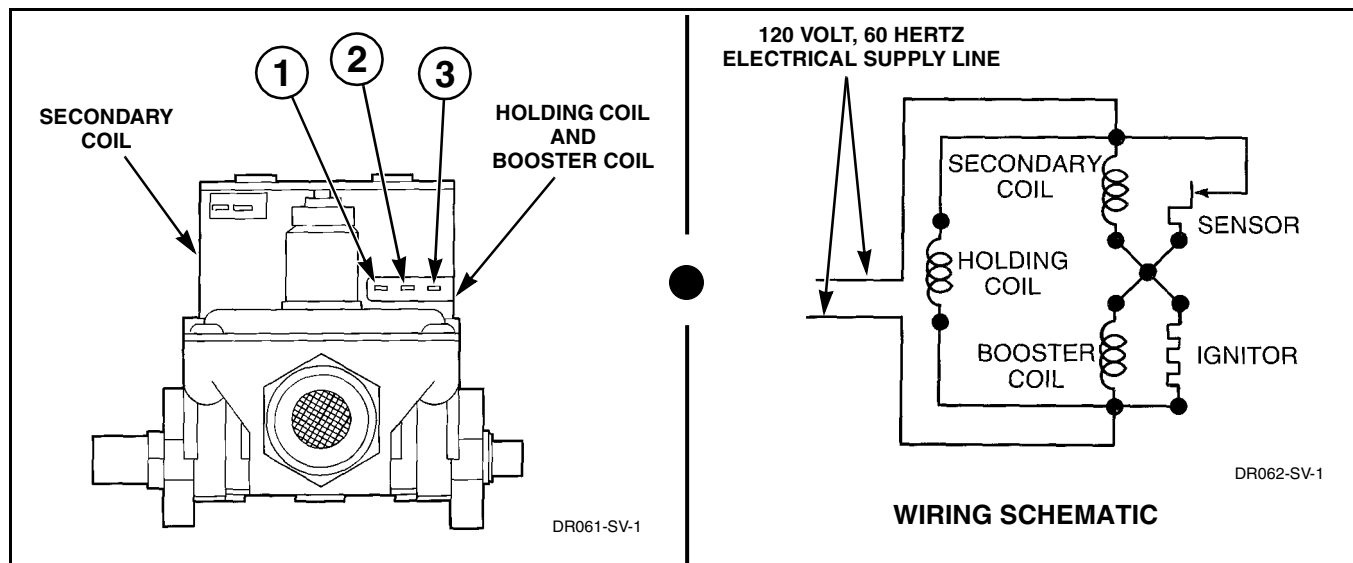

Figure 22
2. Remove valve wire harness disconnect block from holding and booster coil. Refer to *Figure 22*.
4. Set test meter to read AC voltage and apply meter probes into terminals on the dryer harness that would correspond to terminals “1” and “2” on the coil. Refer to *Figure 22*. Meter should register line voltage in all fabric settings, except FLUFF which should read “zero” VAC.